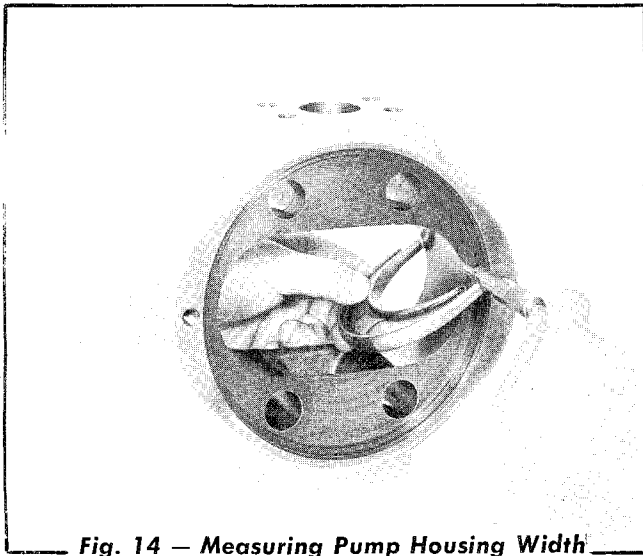

Fig. 14 — Measuring Pump Housing Width
2. Measure the width of the gears and housing as shown in Figs. 14 and 15. Replace both gear and shaft assemblies if the difference between the housing width and the gear widths exceed .005".